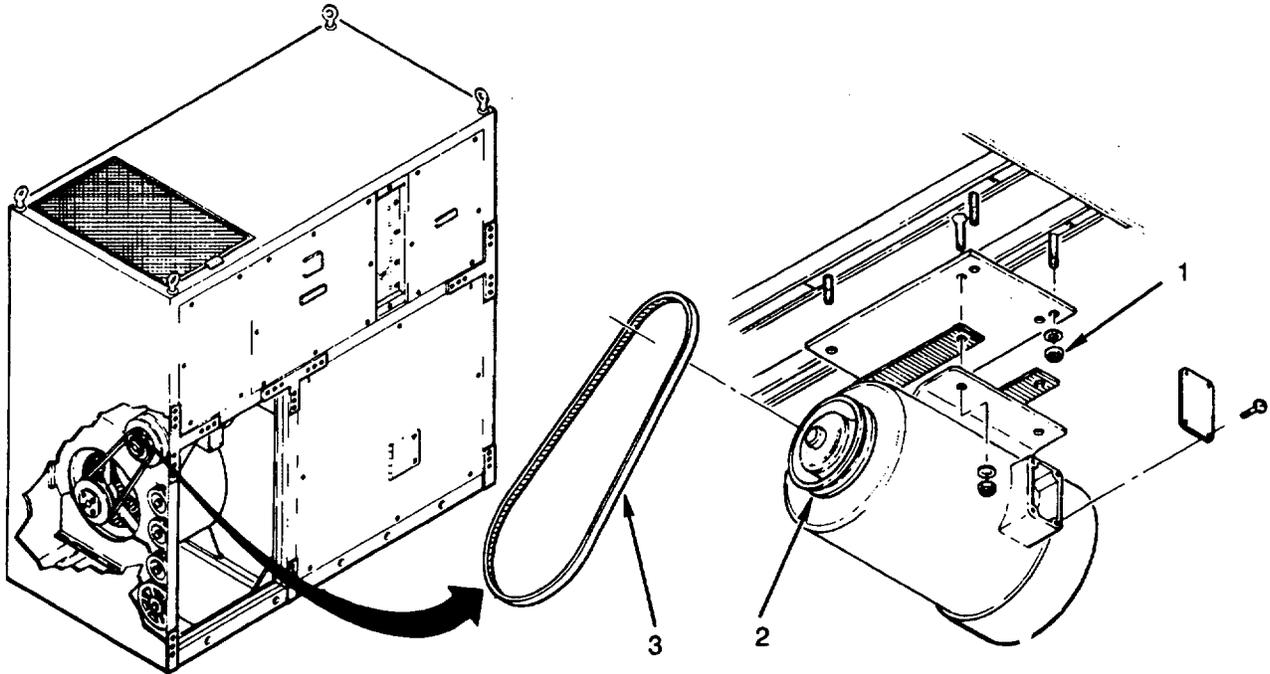

Figure 4-75. Fan Belt (Condenser Motor And Housing Assembly)
1. Check that belt is not cut, worn, frayed, or cracked. If belt is damaged, replace belt (see Figure 4-75).